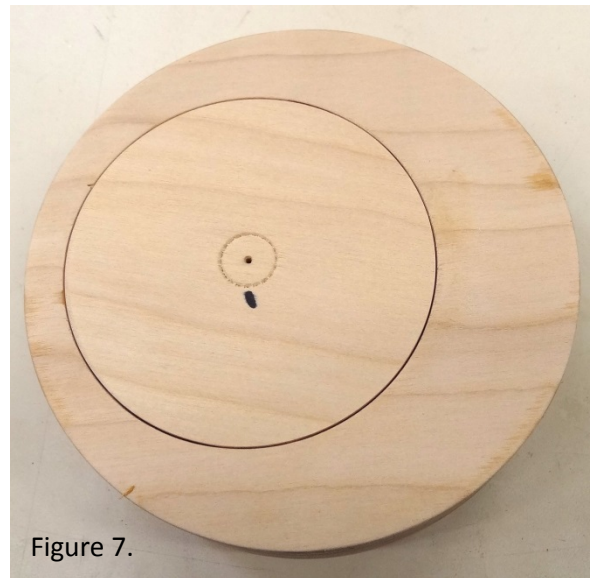

Figure 7.
5. Using the third piece of  $\frac{3}{4}$ " plywood, cut out a slightly oversize 4" circle on a bandsaw and drill a small hole through the center to mark the center on both sides. Use a drill press or make sure the hole is perfectly perpendicular. Mount the piece between centers using the center hole and saturate the  $\frac{3}{4}$ " wide edge of the plywood with thin CA to minimize tear-out. Turn the piece to fit the 4" hole in the offset assembly so that it turns freely, but is not a loose fit. See Figure 7. **This is the inset circle.**